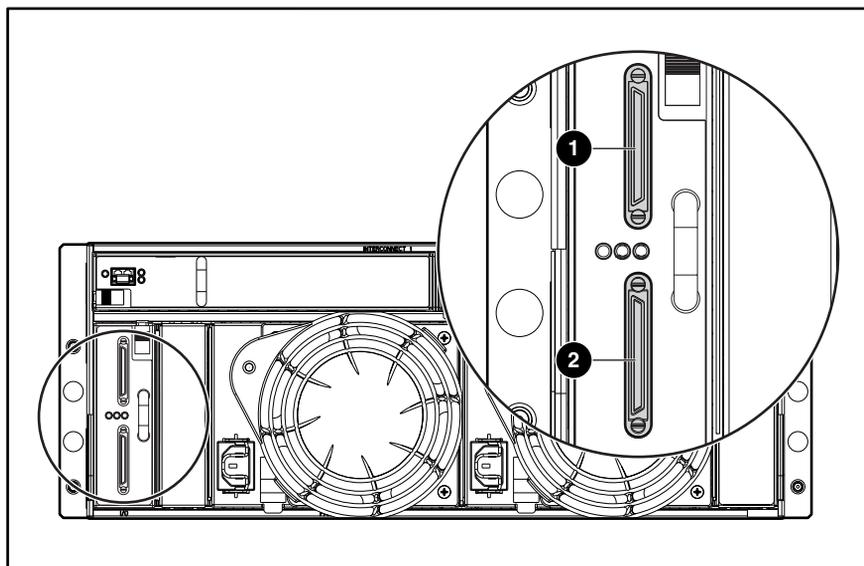
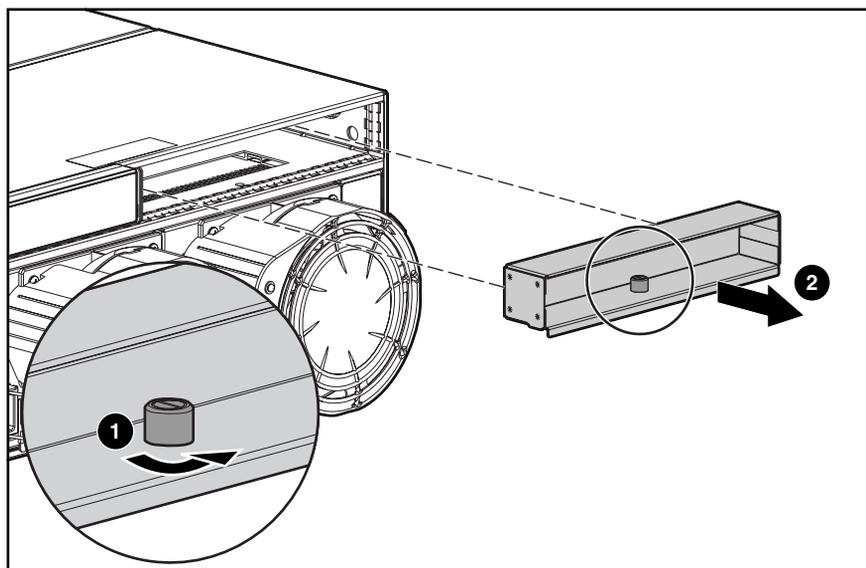

Figure 29: MSA1000 expansion SCSI connectors
Figure 30: Removing blanking panel from the unit
4. Attach SCSI cables to the MSA1000 expansion SCSI connectors. See Figure 29 and Figure 30 in the diagram below for SCSI connector A and SCSI connector B.